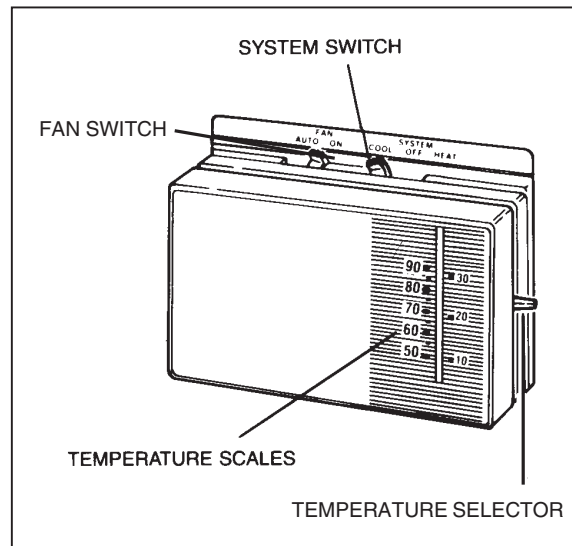

Figure 1. Typical Thermostat
1. Set the thermostat system switch to COOL and the thermostat fan switch to AUTO. See **Figure 1**.
1. Set the thermostat system switch for HEAT and the thermostat fan switch to AUTO. See **Figure 1**.